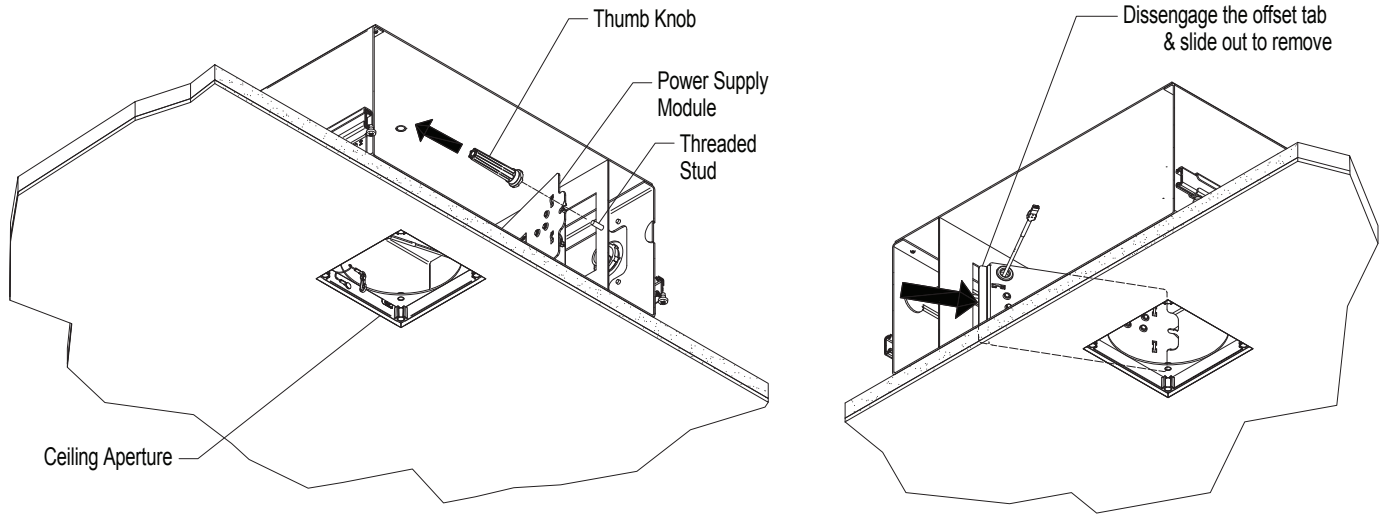

FIG 5.1 Remove Thumb Knob & Disengage Power Supply Module (Model 804 shown)
Step 2 Unscrew & remove Thumb Knob inside Housing as shown. Tilt Power Supply Module to disengage offset tab from housing as shown-FIG 5.1.
3. Make wire connections & push all wires & connections completely inside wiring compartment – FIG 5.1 & 5.2.
4. Replace & secure box cover plate using screws provided – FIG 5.1.